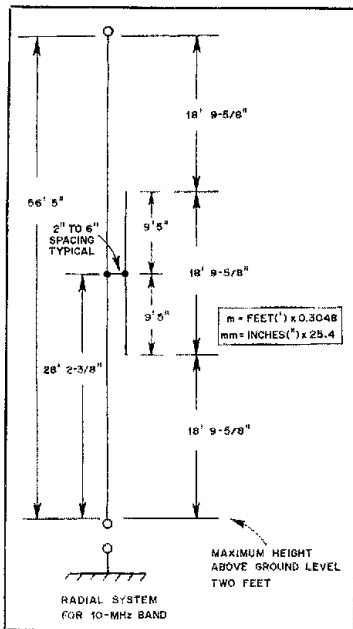

Fig. 1 — Dimensions and construction information for the W1JF J² antenna.
□ This J² antenna was developed to cover the 10-MHz band, but with an eye toward future operation on the 24.89- to 24.99-MHz band. The antenna provides omnidirectional low-angle radiation with a single feed point. Fig. 1 shows the antenna dimensions.